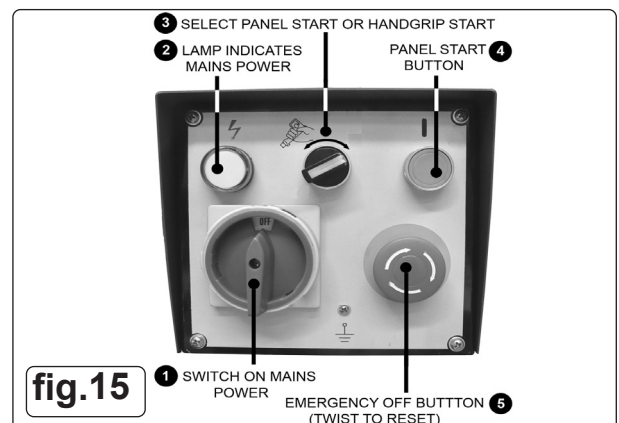

fig.15
- 6.7. Turn on the mains power by turning the switch clockwise. See (1) in Fig.15. The power lamp (2) will light.
- 6.14. In order to start the machine with the hand grip switch (See 5 in Fig.4) the selection switch on the control panel (See 3 in Fig.15) must be turned to the hand grip symbol.